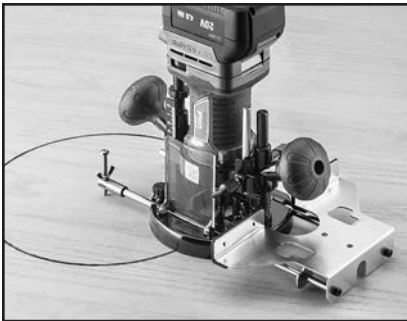

Figure 19. Example of straight guide set up for cutting circles.
5. Drill a $\frac{3}{16}$ " pilot hole in workpiece at center of circle (see **Figure 19**).
9. Rotate router in a clockwise direction using circle jig as a pivot point (see **Figure 19**).